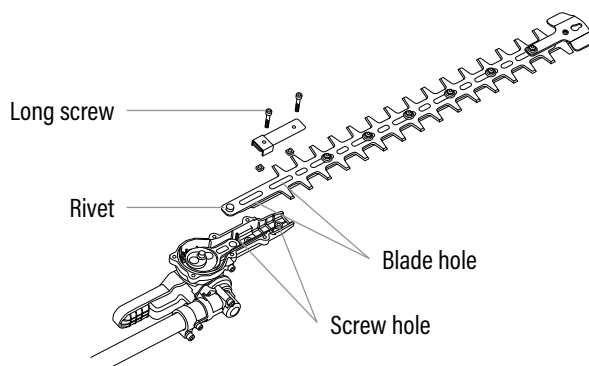

Fig. 6B
3. Keep the holes in the blade, the gaskets, the holes in the pressing plate, and the wool felt in line with the screw holes in the gear case. Install the 2 long screws into the aligned holes and tighten them securely. (Fig. 6B)